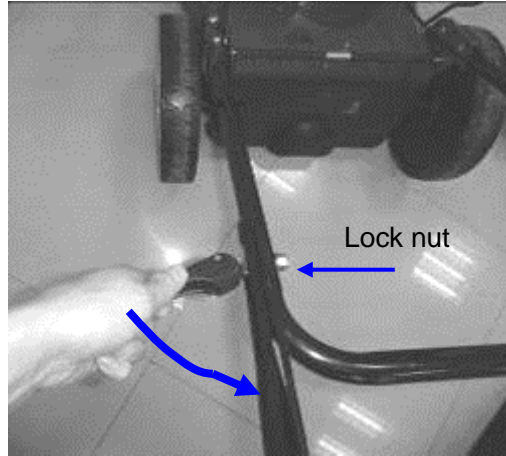
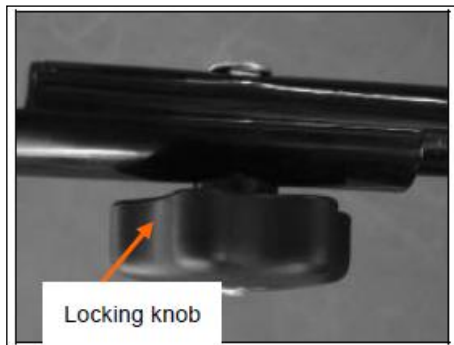

Fig.2G
Fig.2H
3. Push the locking lever closed or tighten the knobs to lock the handlebars in the operating position. (Fig.2G/Fig.2H)